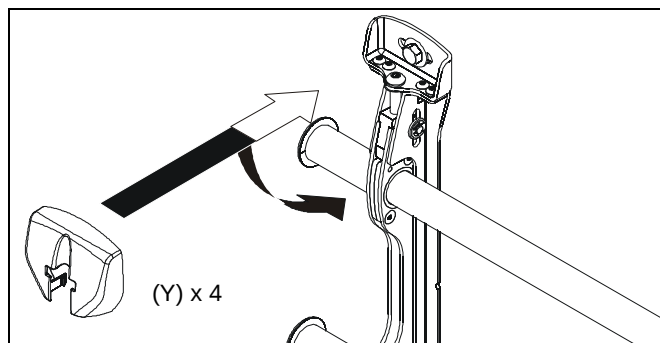

Figure 10
1. (LSMVPU only) Attach wall bracket caps (Y) to top and bottom of both wall brackets. (See Figure 10)